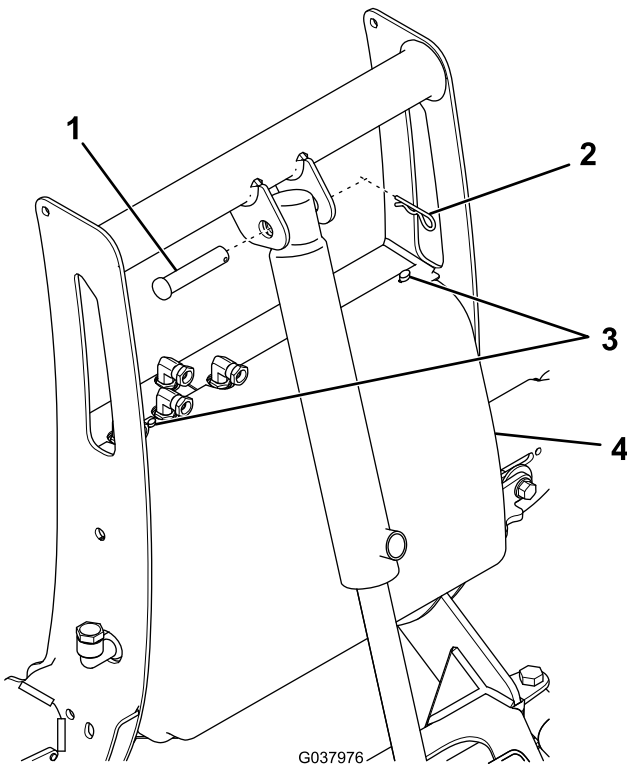

Figure 26
2. Remove the hairpin cotter and clevis pin from the top of the lift cylinder and lean it forward (Figure 26).
3. Remove the 2 thumb screws securing the coupler-tower cover to the coupler tower (Figure 26).